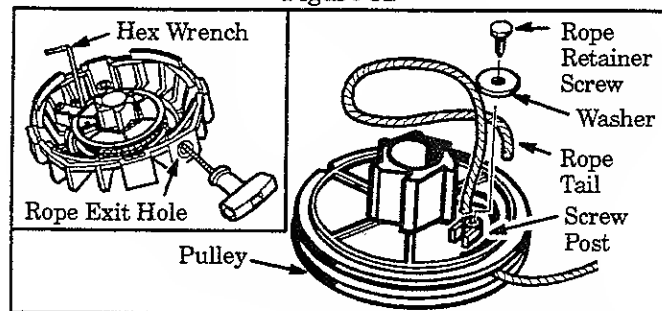

Figure 33
8. Remove rope retainer screw from pulley. Then, remove any remaining rope. Figure 33.
11. Insert the small hex wrench into the hole formed by the notches to hold the pulley in position. Figure 33 (inset).
17. Wrap the rope counterclockwise around the pulley ratchet and tuck loose end under the rope at the pulley hole. Figure 33. Leave a 1 inch tail laying between the retainer rib and the retainer screw/post. Figure 33.